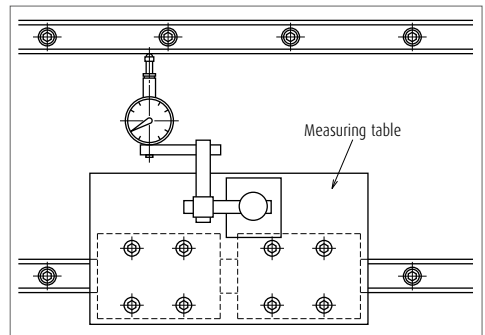

Fig. 15 Measuring parallelism
- [4] If there is no shoulder on the mounting surface of the machine base for the adjusting side rail: Secure a measuring table to the slides of the reference side rail (**Fig. 15**). Use this to adjust the parallelism of the adjusting side rail. Check parallelism of the adjusting side rail with a dial indicator from one end of the rail, tightening the bolts one by one.
Parallelism between two rails can also be checked by the same method in **Fig. 15** when there is a shoulder on the surface where the adjusting side rail is installed.